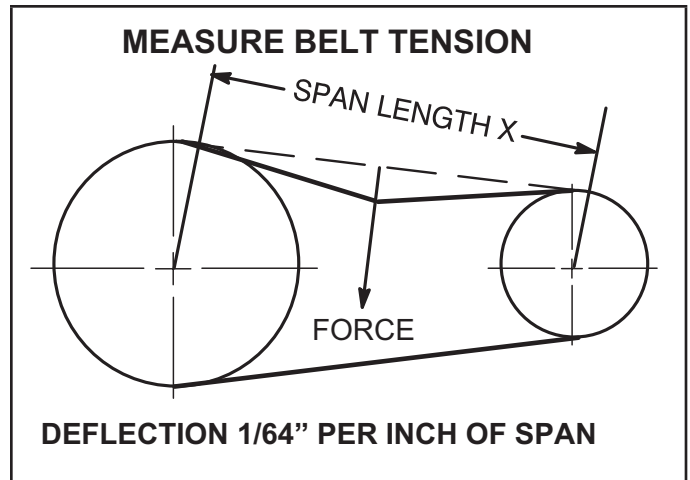

FIGURE 17
1. Measure span length X. See FIGURE 17.
2. Apply perpendicular force to center of span (X) with enough pressure to deflect belt $1/64$ " for every inch of span length.